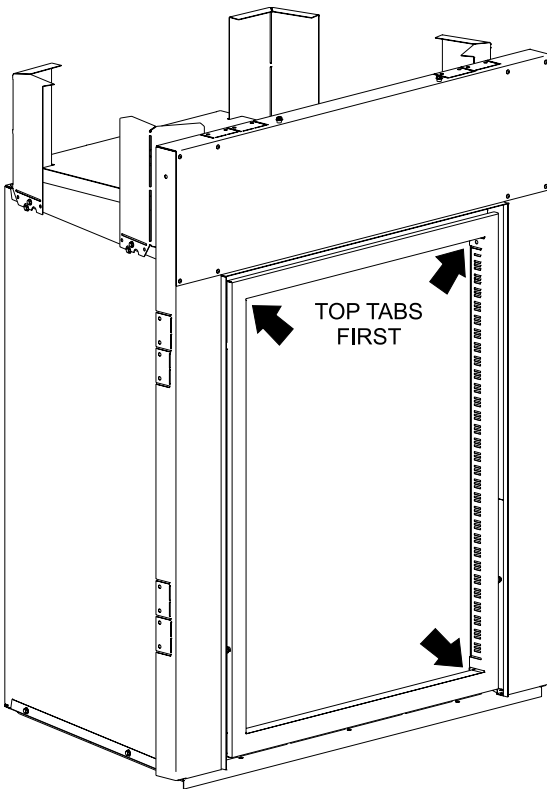

Figure 86
2. To remove the offset frame; release tabs in the upper corners by flexing them away from the glass frame. Tilt offset frame to the left or right in order to access one of the bottom tabs. Release tab and remove offset frame. **See Figure 86.** Installation is the reverse of removal.